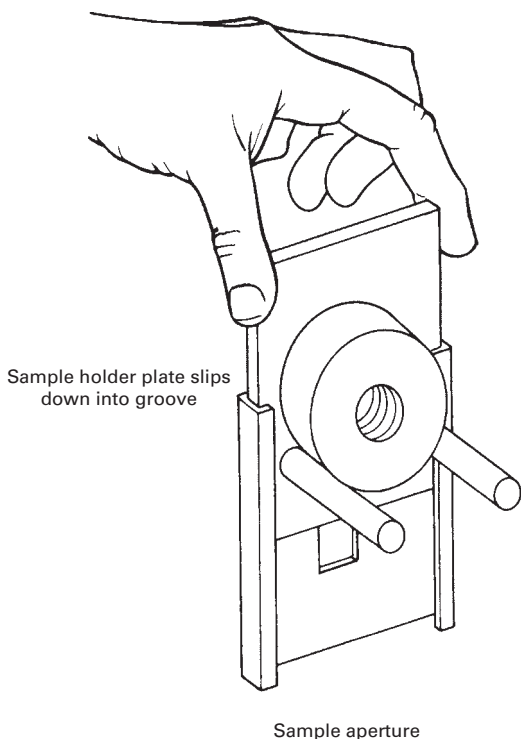

FIGURE 32.14 Putting sample holders with samples into the beam.
6. Put the entire press in a holder placed in the analyzing beam of the IR, as in Fig. 32.14. (Don't worry about that yet; I'll get to it in a moment. See "Running the Spectrum.")